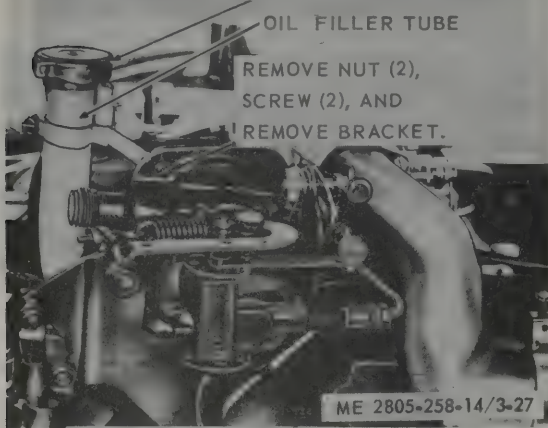

Figure 3-27. Oil gage rod, and oil filler tube, removal and installation.
a. Removal. Refer to figure 3-27 and remove oil gage rod and oil filler tube.
(1) Clean oil gage rod and oil filler tube with an approved cleaning solvent and dry thoroughly.
(3) Replace a damaged oil gage rod and oil filler tube.
c. Installation. Refer to figure 3-27 and install oil gage rod and oil filler tube.